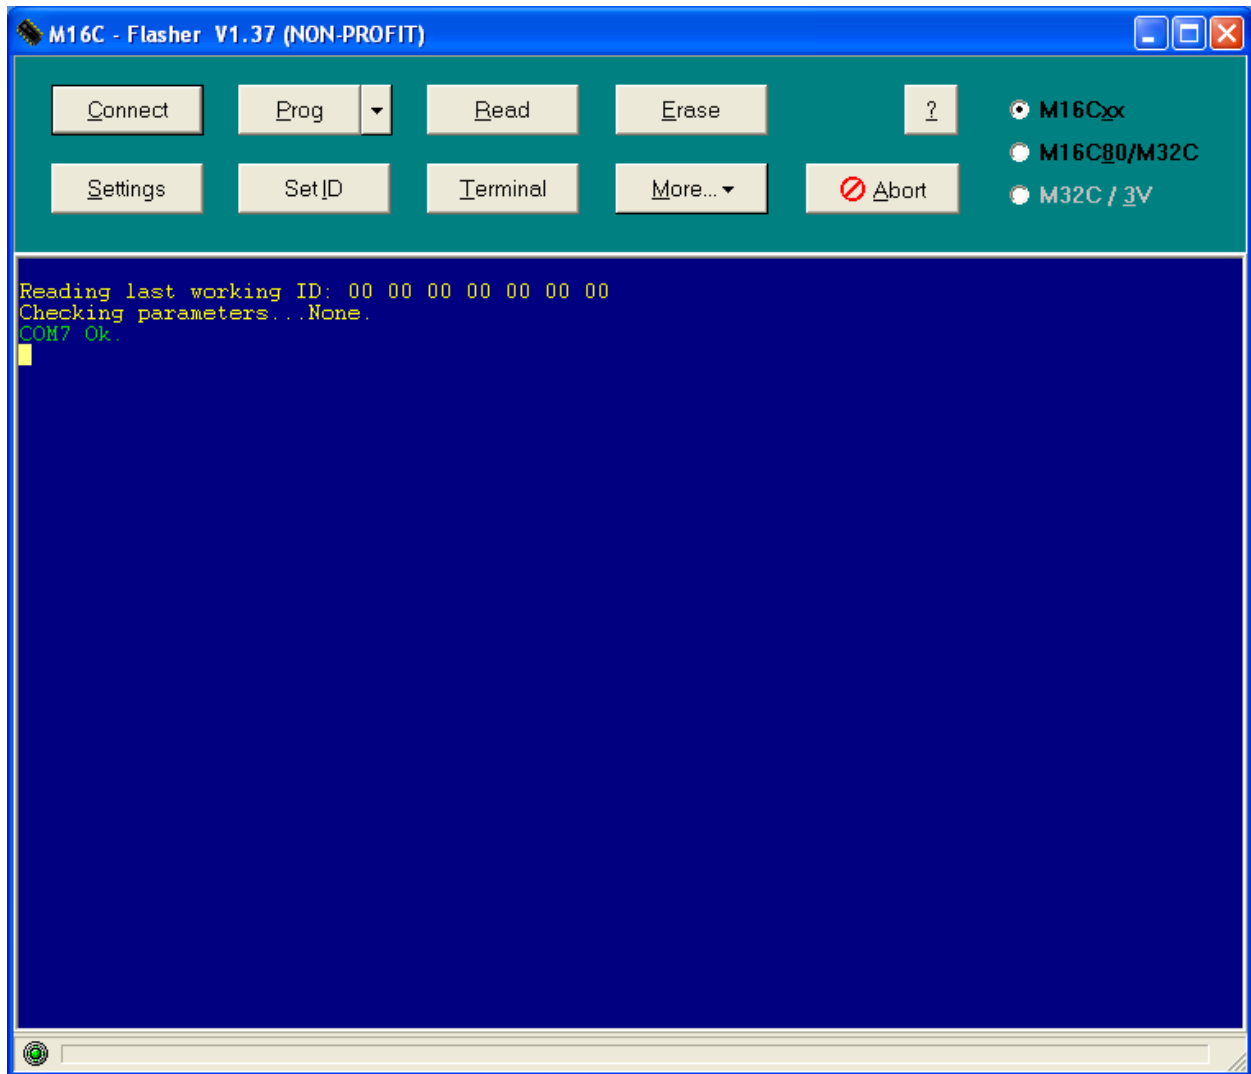

Figure 3: M16C Flasher main window
2. Start the M16C-flasher tool. The main window is displayed. See Figure 3 below